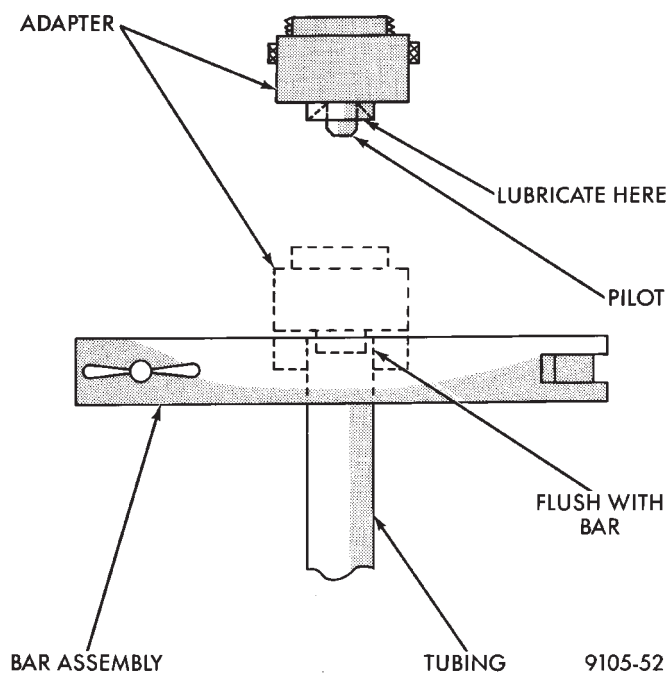

Fig. 5 ISO Tubing Flare Process
Snap-On Flaring Tool TFM-428, (Fig. 3) or equivalent. See (Fig. 5) and proceed with the steps listed below. **Be sure to place the tubing nut on tube before proceeding to flare the tubing.**
(3) Position tubing in jaws of the Flaring Tool so that it is flush with top surface of flaring tool bar assembly. (See Fig. 5).
(4) Install the correct size adaptor for the brake tubing being flared, on the feed screw of the yoke assembly. Center the yoke and adapter over the end of the tubing. Apply lubricant to the adapter area that contacts brake tubing. Making sure the adapter pilot is fully inserted in the end of the brake tubing.
Screw in the feed screw of the yoke assembly until the adaptor has seated squarely on the surface of the bar assembly (Fig. 5). This process has created the (metric) ISO tubing flare.